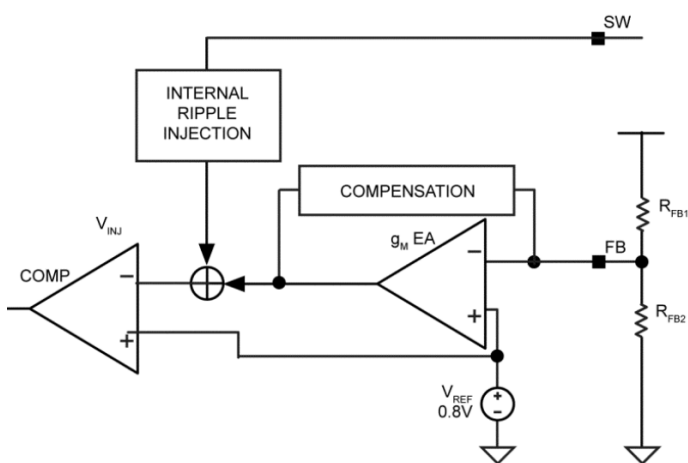

Figure 1. Output Voltage Sense via FB Pin
As shown in Figure 1 (in association with Equation 1), the output voltage is sensed by the MIC45205 feedback pin (FB) via the voltage divider R_{FB1} and R_{FB2} and compared to a 0.8V reference voltage (V_{REF}) at the error comparator through a low-gain transconductance (g_m) amplifier. If the feedback voltage decreases, and the amplifier output falls below 0.8V, then the error comparator will trigger the control logic and generate an ON-time period. The ON-time period length is predetermined by the "Fixed t_{ON} Estimator" circuitry: